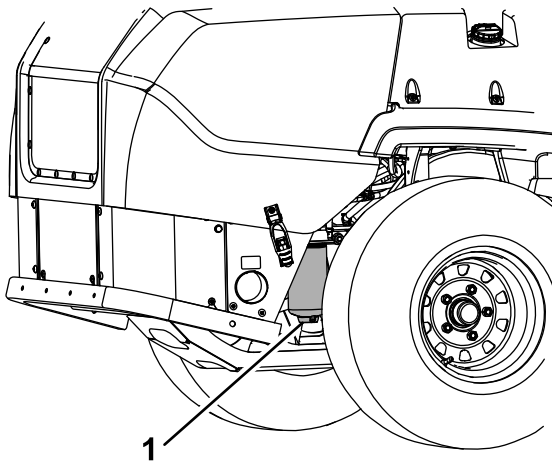

Figure 44
3. Place a drain pan under the fuel filter and loosen the drain plug approximately 1 turn (Figure 44).